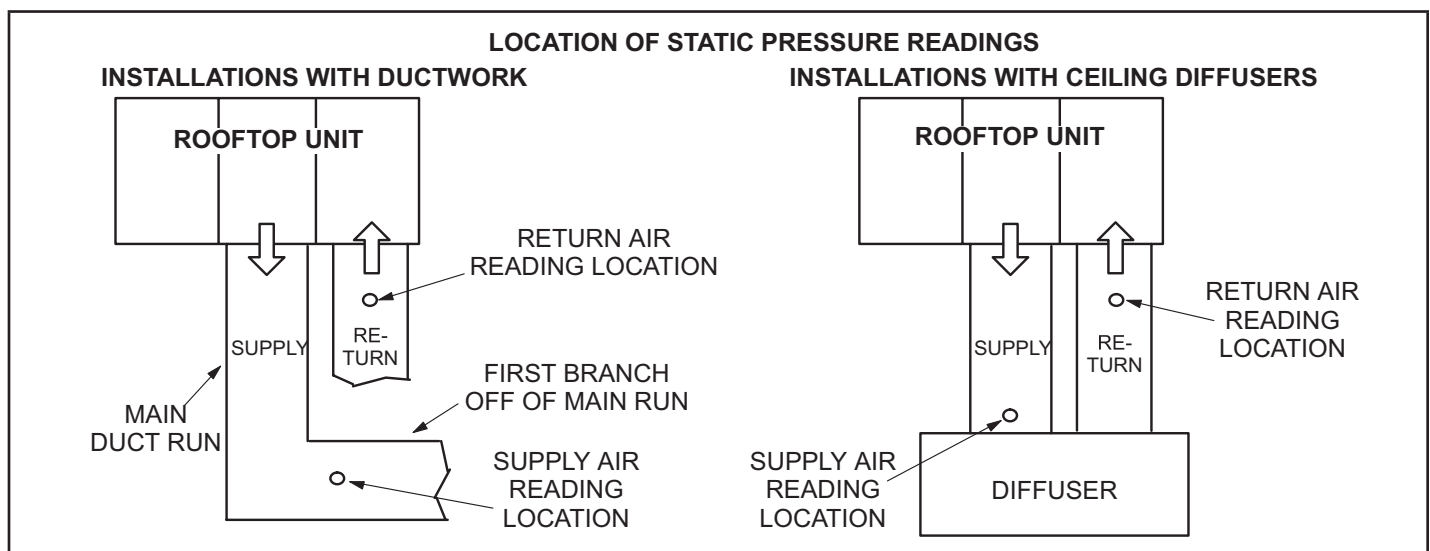

FIGURE 27
- 2 - With all access panels in place, measure static pressure external to unit (from supply to return). Blower performance data is based on static pressure readings taken in locations shown in FIGURE 27.